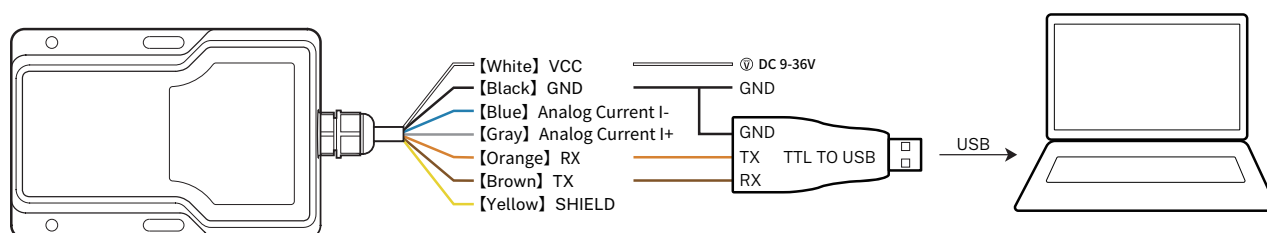

Figure 2. L3s/L3s-Filled wiring diagram (brown wire is not connected)
1. Following Figure 2, connect the white wire to the positive terminal of a DC 9-36V power supply, and the black wire to the negative terminal of the power supply or serial ground (GND).